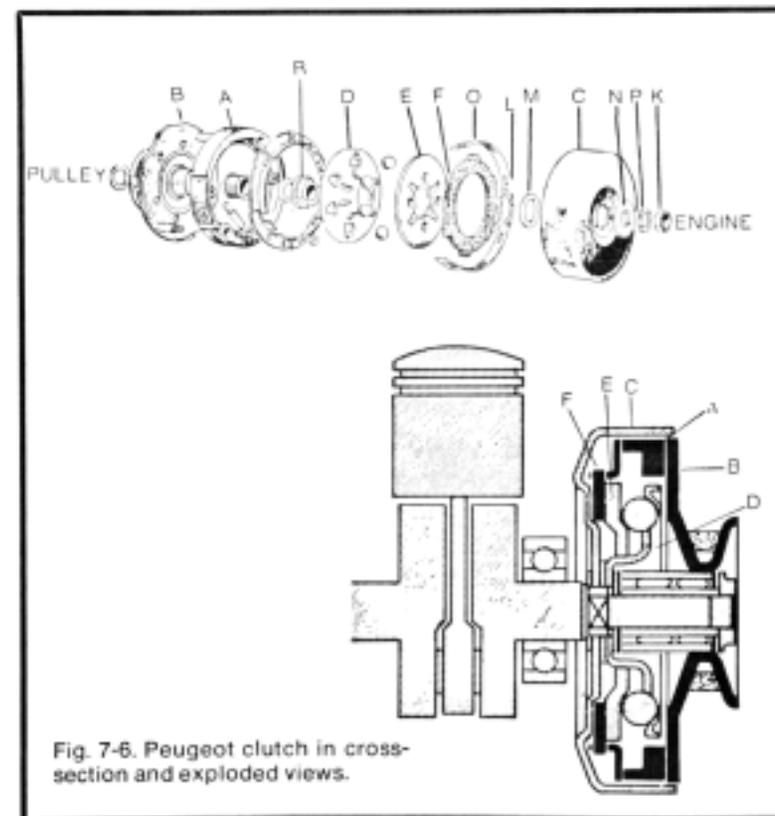

Fig. 7-6. Peugeot clutch in cross-section and exploded views.
**Operation.** Figure 7-6 illustrates the mechanism in cutaway and exploded views. It must be remembered that the clutch drum C and ball drum D bolt to the crankshaft and turn